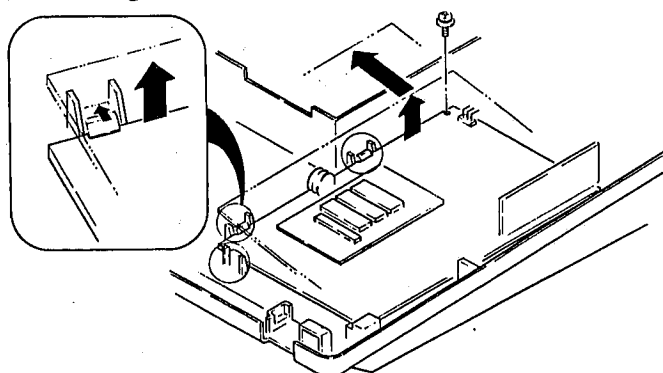

Fig. 9-2
3) Removing the main PWB (Fig. 9-2)